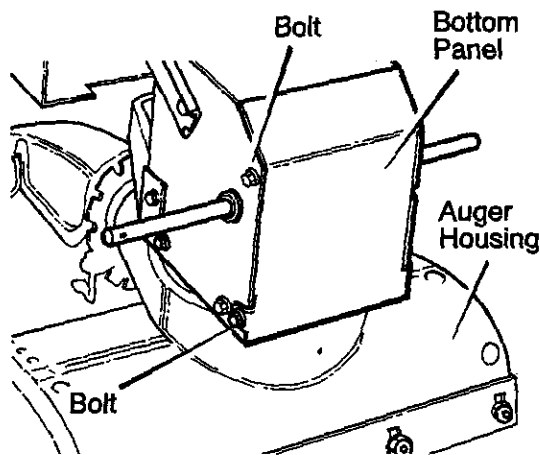

Figure 27
2. Loosen the bolts on each side of the **bottom panel** (see Figure 27).
18. Install the **bottom panel** (see Figure 27).
13. Install the **bottom panel** (see Figure 27).